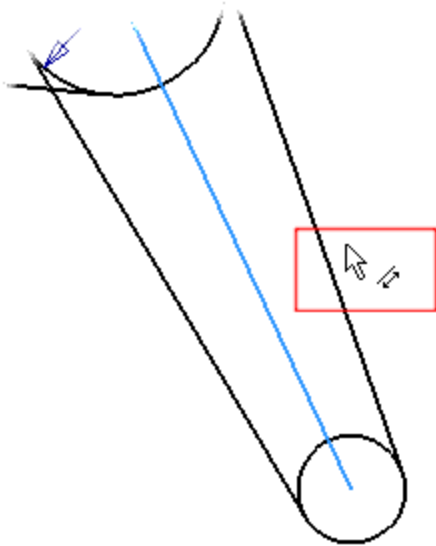

Figure 8: Aligned dimension symbol.
4. Move the cursor near the construction line until the cursor changes to an aligned symbol (see Figure 8). Click and then move the cursor to preview an aligned dimension. Click to place the dimension.